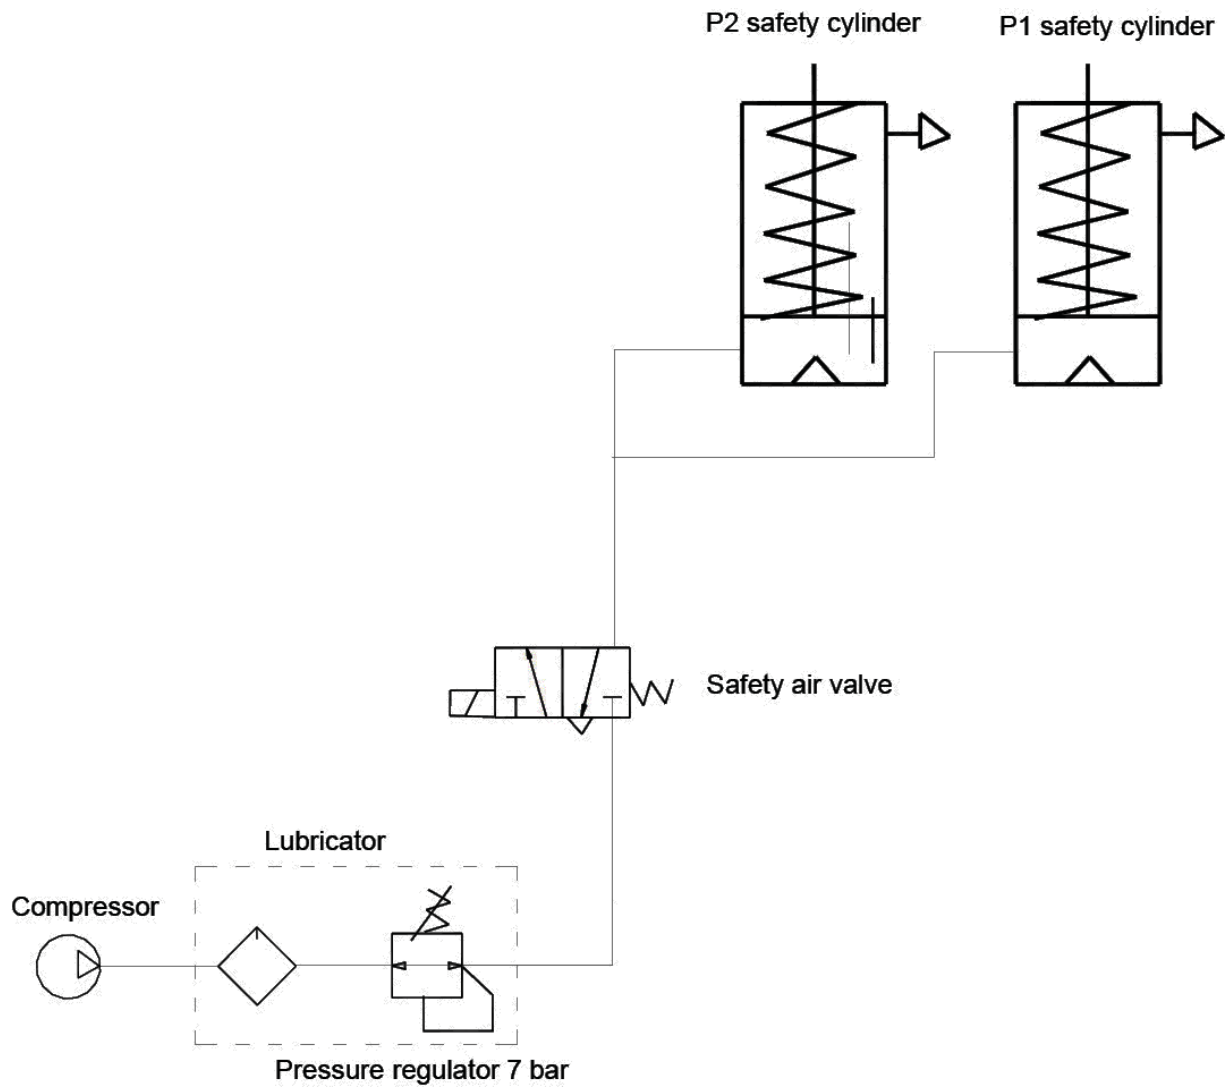

Figure. 6 – Pneumatic Plan
- Connect the pneumatic lines pre-assembled on the lift to the solenoid air valve in the control unit according to the pneumatic plan (fig. 6);